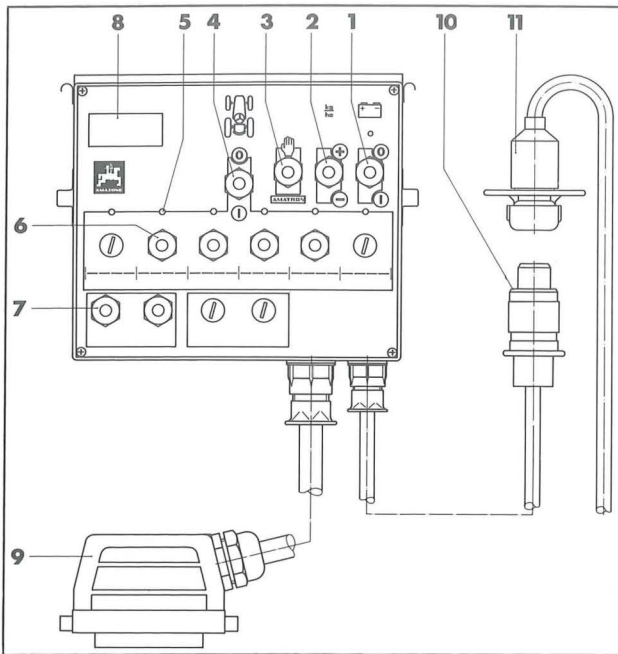

Fig. 8
4.7.5 Connecting of control box SKJ 3 (JET) (Fig. 8)
The electric remote control box is separately packed and is connected to the machine with an implement plug (Fig. 8/9). For the electric supply the enclosed connecting cable should be directly fitted to the tractor's battery (12 Volt), blue to earth (negative) and brown to (12 Volt), blue to earth, negative and brown to live. Put plug (Fig. 8/10) into the socket (Fig. 8/11).
Description of the individual switches (Fig. 8)